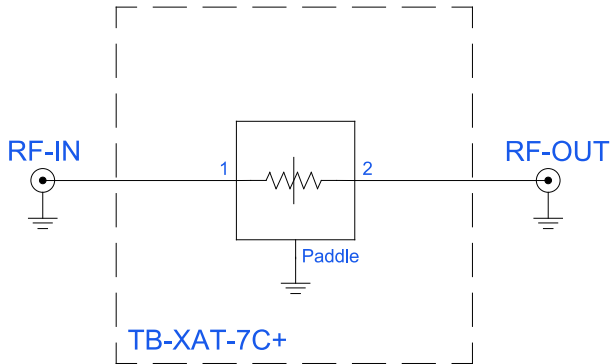

Figure 2. XAT-7+ Characterization and Application Circuit.
1. Tested on Mini-Circuits Characterization Test/Evaluation Board TB-XAT-7C+. See Figure 2. Board loss de-embedded to the device.